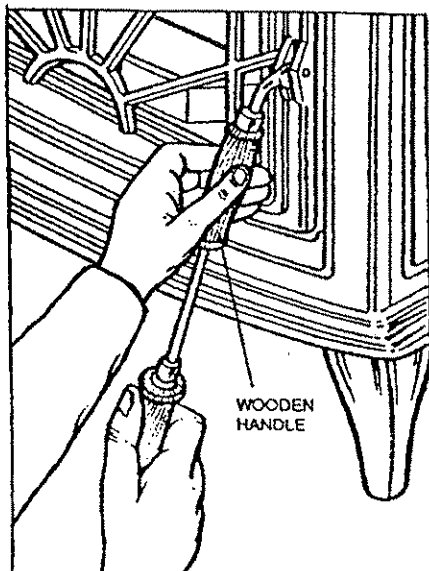

Fig. 7
- E Replace ashpan (item 5).
- F Replace the burn pot (item 6) and grate (item 7) in the combustion chamber.
- G. Check the hopper (item 38) and make sure it is empty. Check that there are no nuts, bolts, etc., lodged in the auger at the bottom of the hopper.
- H. Attach the wooden handle (item 59) to the door (item 11). This can be done using a standard Philip's screwdriver. (See fig.7)